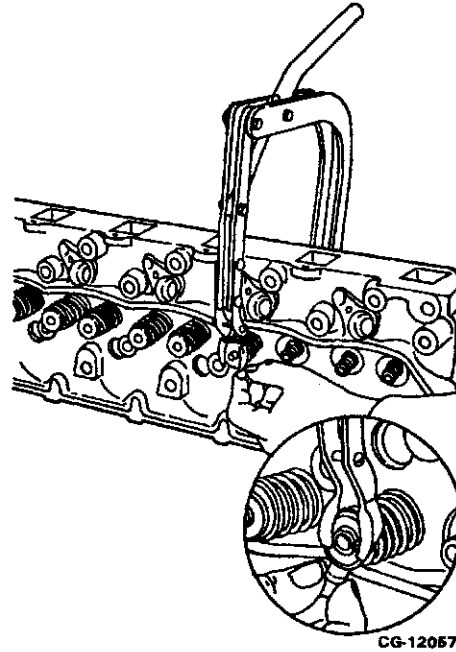

Figure 4.59. Compress Springs and Install Spring Locks
7. Compress the valve spring and install the spring locks as shown in Figure 4.59.